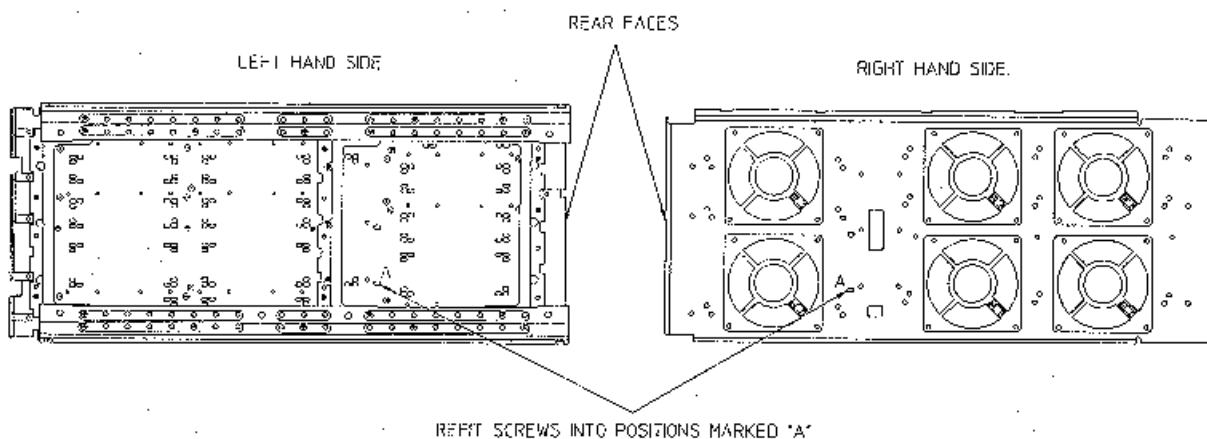

Figure 11
10. Re-fit screws into positions A, as shown in FIG 11, to secure the power supply assembly.